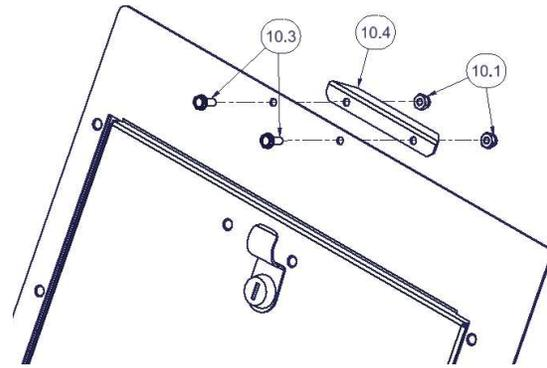

Figure 1
2. There is a formed gap at the top of the factory cubby that allows a child seat tether to be attached to the anchor within the cubby itself. To fill this gap, take the #10.4 Upper Filler Bracket from the key bag and install it to the back of the Cubby Cover using the #10.1 Nylock Nuts and the #10.3 Screws. (See Figure 1)